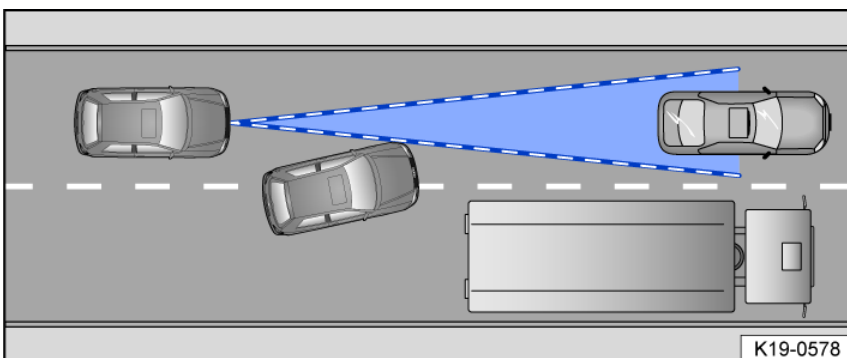

Fig. 110 Changing lanes.
- If vehicles change to your lane close in front of your vehicle fig. 110.